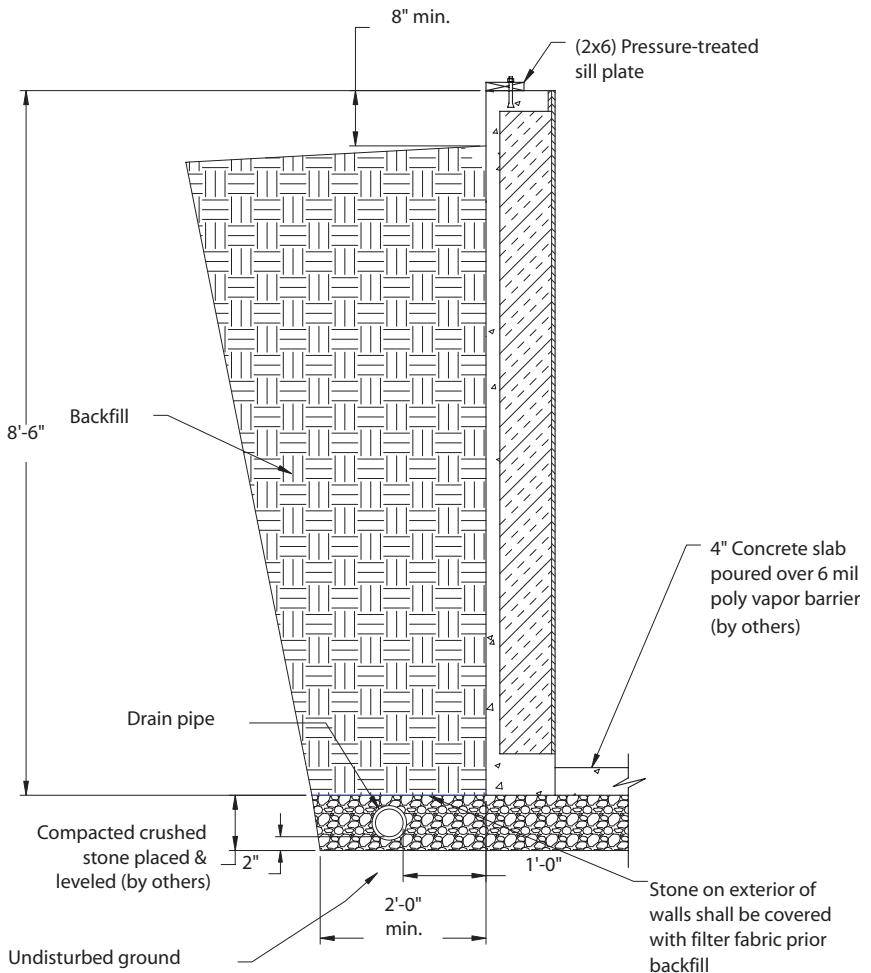
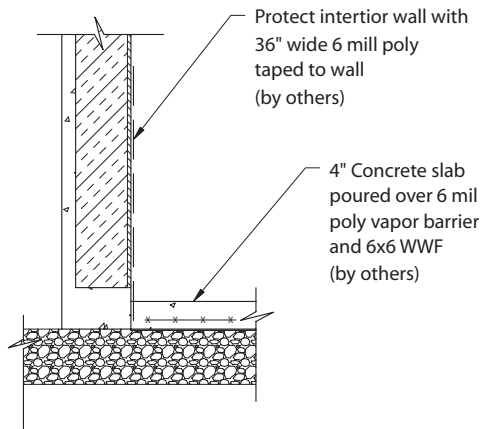

Figure 1
Figure 3
a) Excavation (see figure 1, Pg. 4)
b) Stone Placement (see figure 1, Pg. 4)
b) Drainage (see figure 1, Pg. 4)
- (1) Porous or perforated drainage pipes shall be provided (by others) when Precast Walls enclose usable or habitable space below ground.
- (2) Stone on exterior of wall shall be covered with filter fabric prior to backfill.
- (3) Drain Discharge – All drains shall go to daylight by either gravity or sump pump discharge.
- (4) Lots shall be graded to drain surface water away from foundation wall. Grade shall fall a minimum of 6" within the first 10'.
- (5) Window well systems shall be drained to daylight or into the perimeter drain around foundation.
ii) Pipe (see figure 1, Pg. 4)
- (1) When groundwater from beneath the basement floor slab is anticipated, the installation of a basement sump pit is required.
- (2) Specifically manufactured, sealed HDPE devices should be used to minimize hazards from an open pit.
- (3) If the site allows, the sump pit should drain to daylight. If this is not practical an ejector pump is required.
a) Vapor barrier (see figure 3, Pg. 7)
b) Concrete Slab (see figure 3, Pg. 7)
- (1) Filter fabric is placed on stone bed outside foundation (see Figure 1, Pg. 4).
- (2) The sill and floor above have been properly secured.
- (3) The basement floor has been poured (see Figure 3, Pg. 7).
- (4) Exception: Bracing may be provided by owner to sufficiently restrain walls to prevent damage by backfill.
- (5) Backfill material shall not be placed against wall sections until joint sealant material has adequately cured.